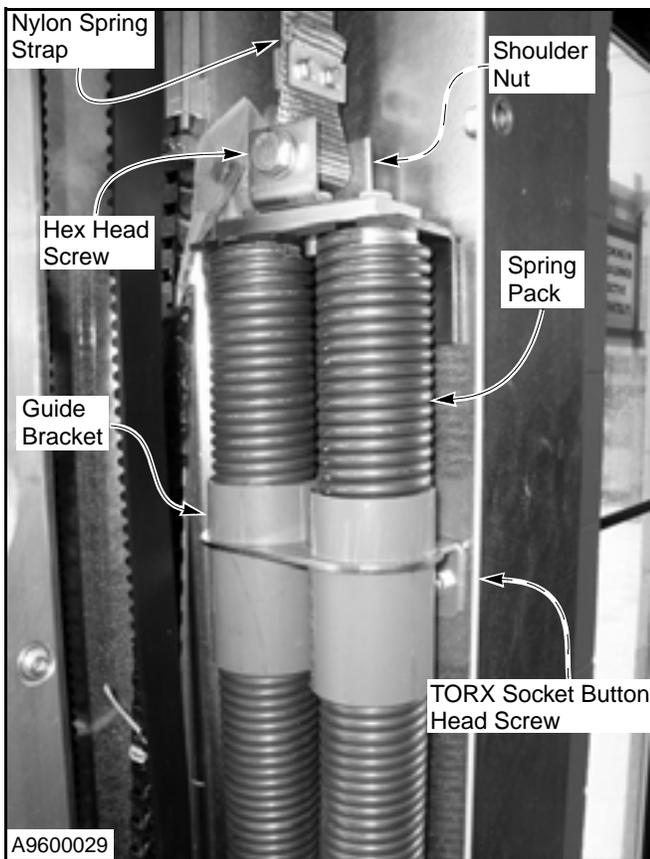

Figure 34
- Hang each spring pack assembly from its associated spring strap. Make sure the nylon straps are not twisted. Use the hardware provided with the spring pack to attach the strap to the pack. (See Figure 34.)
- With the spring packs attached to the straps, mount the spring packs (with the guide bracket) to the side column. Two TORX® socket button head screws, located in the small parts carton, are used to attach the spring pack to the side column. (See Figure 34.)